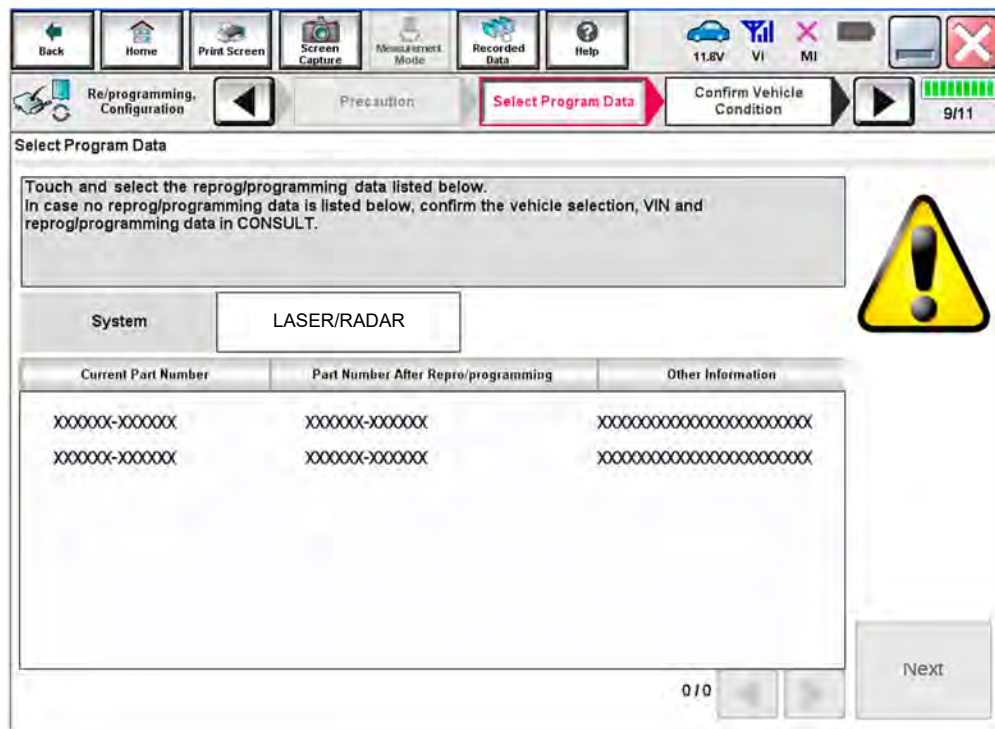

Figure 13
- If more than one new P/N is available, the screen in Figure 13 displays.